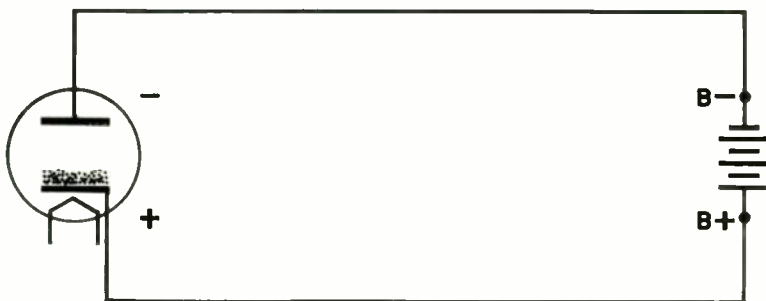

Figure 12 — Diode with a negative plate voltage.
**Negative Plate Voltage Condition** The schematic diagram in Figure 12 shows the B— voltage connected to the plate or anode, and the B+ voltage connected to the cathode. It is common practice to omit the connections to the heater in order to simplify the diagram.